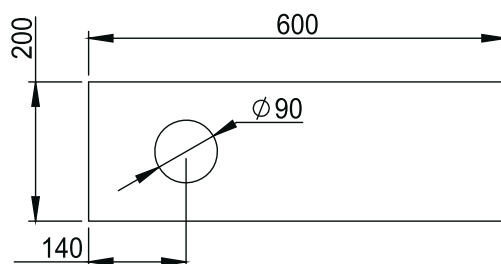

Fig. 1
2.3 After unpacking, the hardness tester shall be placed on a stable working table horizontally, with horizontal deviation less than 1mm/m. A hole shall be drilled at an appropriate location on the working table (see Fig.1) to enable the Up and Down Lead Screw to operate properly. We suggest the height of working table should be about 500mm.